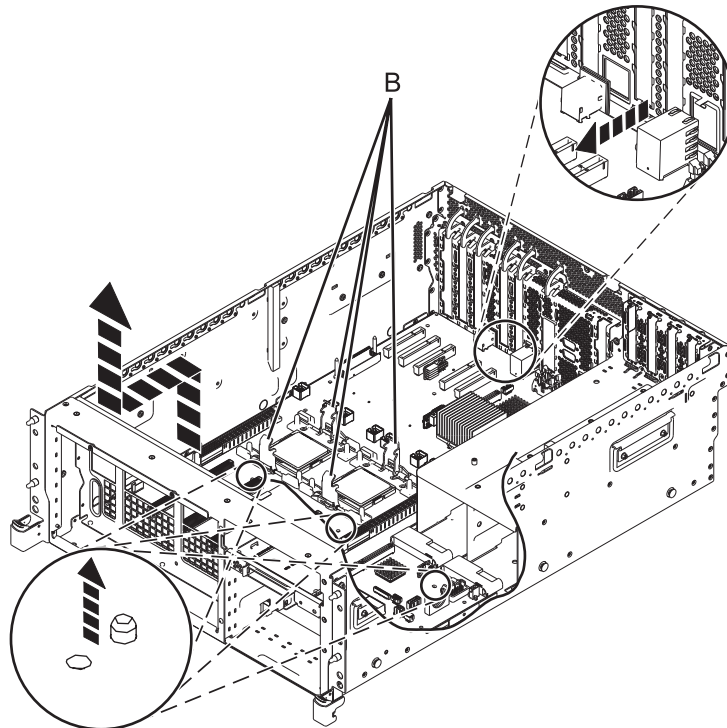

Figure 11. Removing the system backplane
c. Grip the system backplane by both heat sink load arms (**B**). See Figure 11.